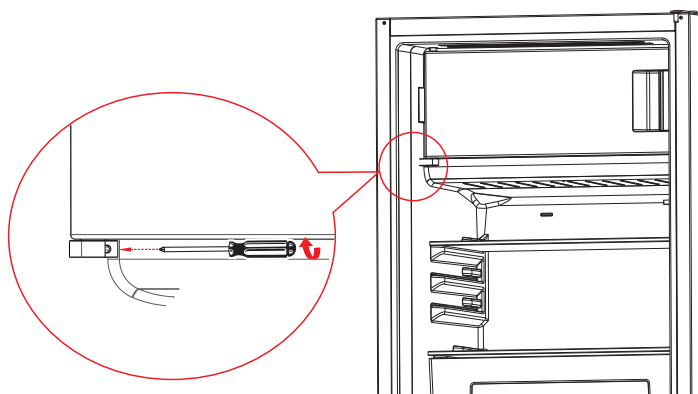

Fig. 10
- ▶ Next, screw the freezer compartment hinge tight (Fig. 10).